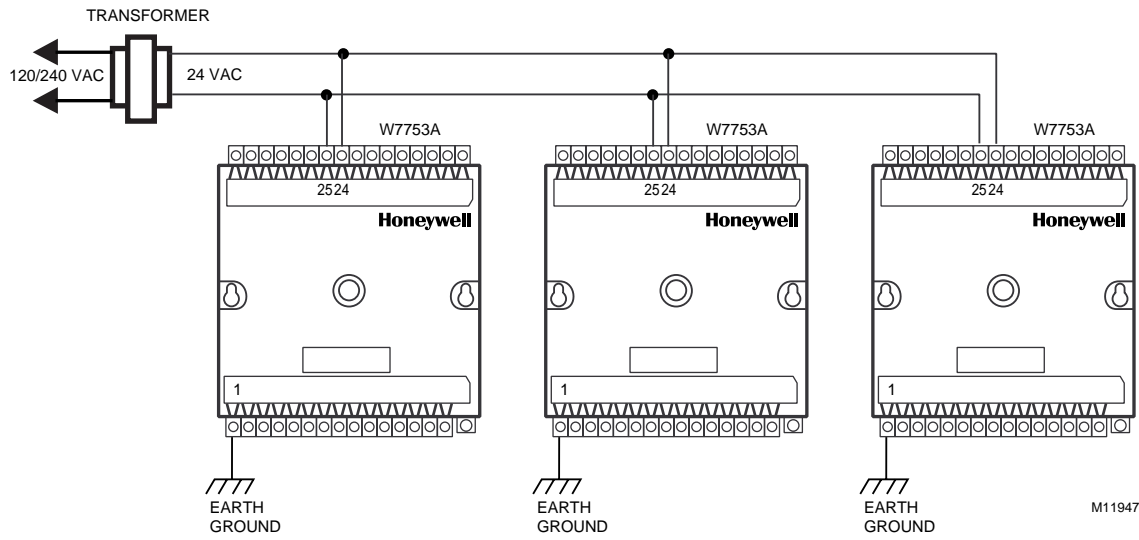

Fig. 19. Power wiring details for two or more Excel 10s per transformer.
- For multiple controllers operating from a single transformer, the same side of the transformer secondary must be connected to the same input terminal in each controller and the ground must be connected to a verified earth ground for each controller in the group. See Fig. 19. (Controller configurations are not necessarily limited to three devices per transformer.)